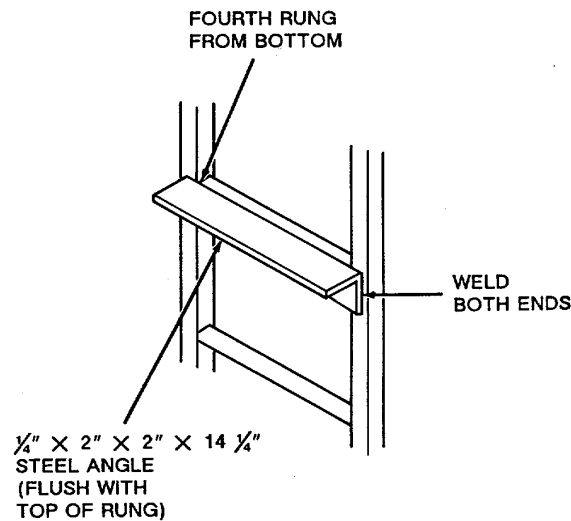

Figure 5-3. Ladder Modification.
c. To solve this problem, arc weld a piece of steel angle $1/4 \times 2 \times 2 \times 14 \ 1/4$ in. ($0.64 \times 5.08 \times 5.08 \times 36.20$ cm) to the ladder. Arc weld the angle to the ladder (see Figure 5-3).